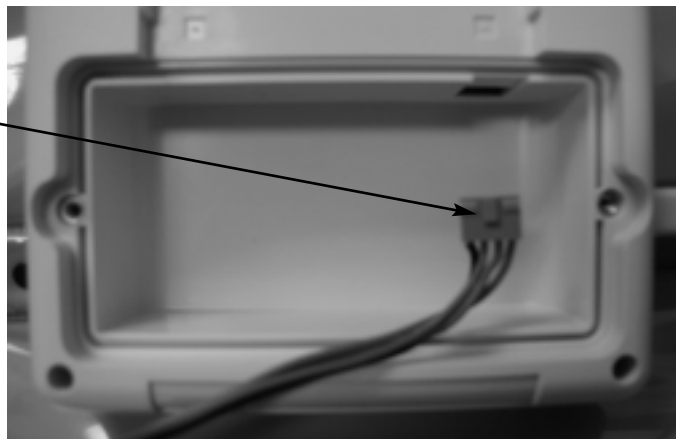

Fig. B-3. Battery Connector position before insertion.
2. Refer to Figure B-3 and install the connector into the battery compartment socket. Note that the red leads are to the right of the connector. The leading edge of the connector is best inserted slightly upward and forward.